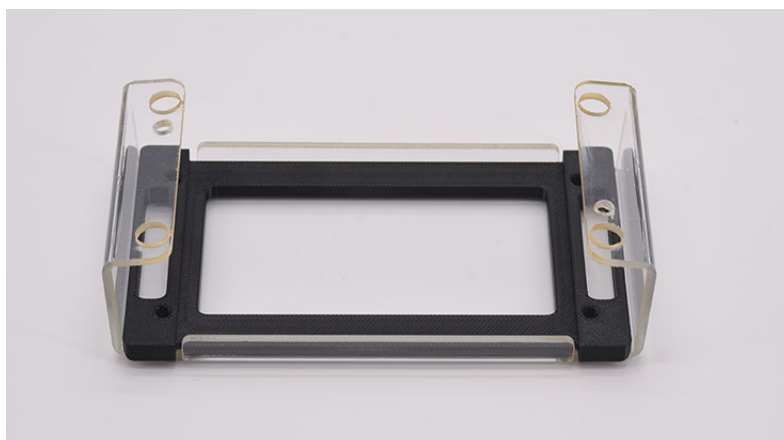

Figure 111 Array docking station with tray base installed
- 2 Place the tray base inside the array docking station as shown in **Figure 111**.